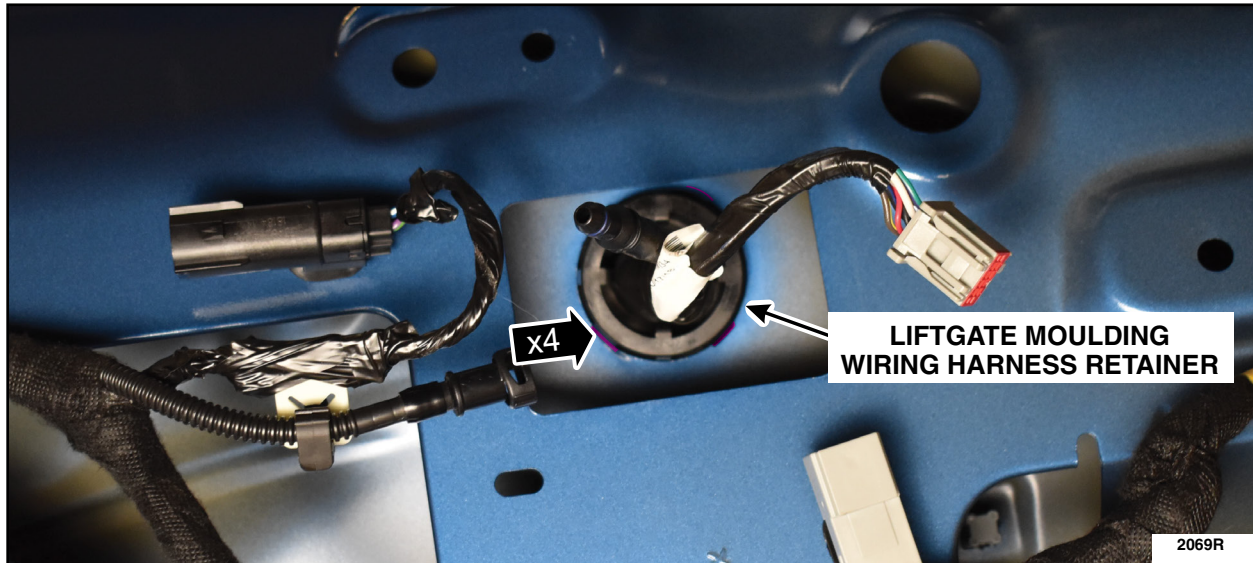

FIGURE 4
4. Release the liftgate moulding wiring harness retainer by depressing the tabs and pushing the retainer rearward into the liftgate moulding. See Figure 4.